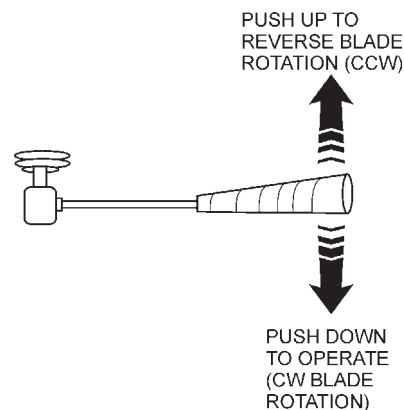
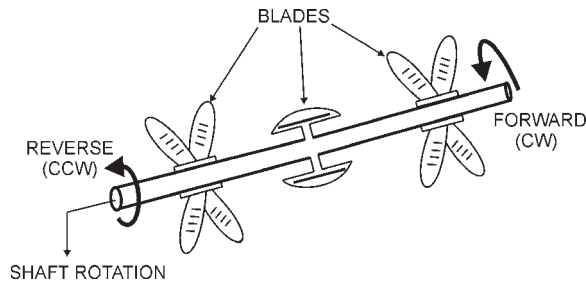

Figure 32. Hopper Remixer Control Lever
Figure 33. Hopper Remixer Blades (Rotation)
- A. Located to the left of the Hydraulic Temperature gauge is the Hopper Remixer Control lever (Figure 32).
- C. Push the Hopper Remixer Control lever **“DOWNWARD”** (Figure 31) and observe that the blades (Figure 33) inside the hopper are turning in a clockwise direction (forward).
- D. Push the Hopper Remixer Control lever **“UPWARD”** (Figure 32) and observe that the blades (Figure 33) inside the hopper are turning in a counter-clockwise direction (reverse).